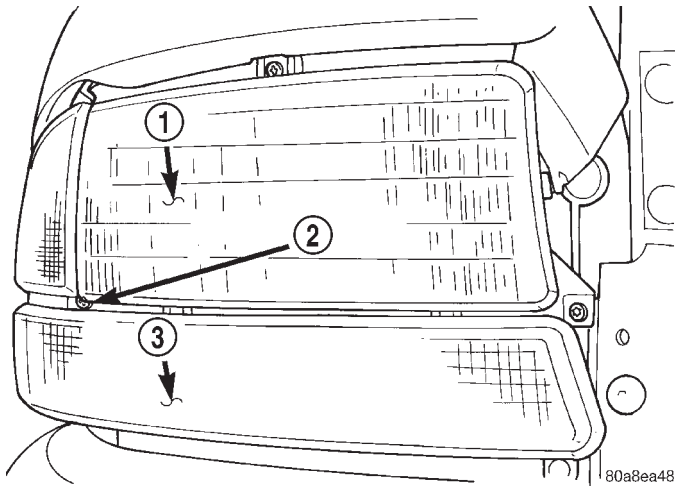
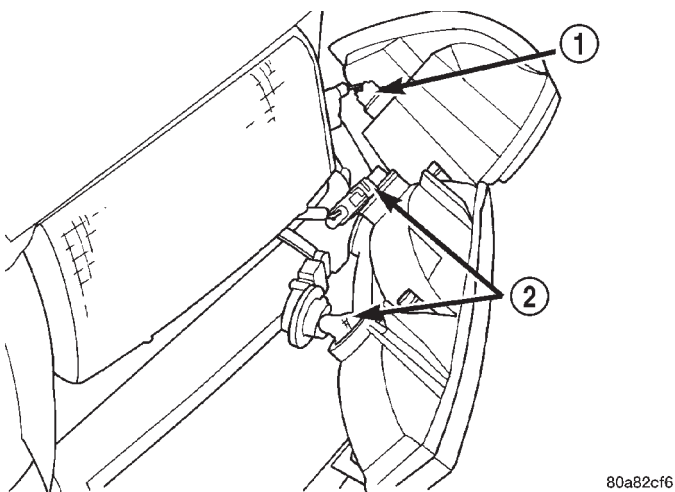

Fig. 3 Park Lamp Screw
Fig. 4 Park, Turn Signal And Side Marker Lamp
- (1) Remove torx screw attaching park lamp to headlamp module (Fig. 3).
- (2) Pull the park and turn signal lamp outward and separate from headlamp module.
- (3) Remove park and turn signal sockets from back of lamp (Fig. 4).
- (4) Remove side marker socket from back of lamp.
- (5) Separate park and turn signal lamp from vehicle.